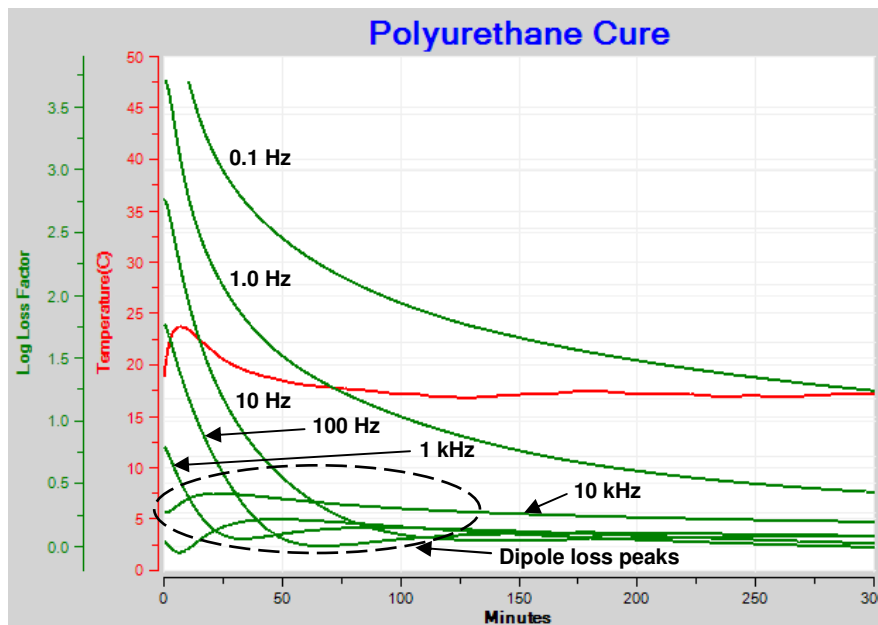

Figure 6
- Do look at loss factor, as in Figure 6, when studying the dipole response